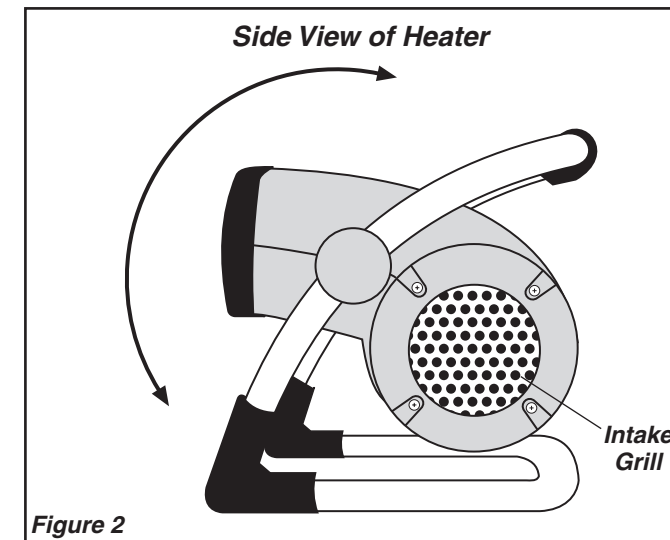

Figure 2
- Move the **Power Knob** to the desired heat setting. High Heat (1500W) is represented by the (2) and Low Heat (900W) by the (1).
- To adjust the angle of the Heater air flow, rotate the Heater body forward or backward to the desired position. (Figure 2)
- To disconnect Heater, turn **Power Knob** to the "OFF" position (0), then remove plug from outlet.